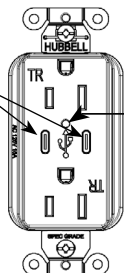

Fig. 4
- (2) C USB port receptacle (Fig.4)
- (2) C ports USB prise (Fig.4)
- (2) C puertos USB tomacorriente (Fig.4)